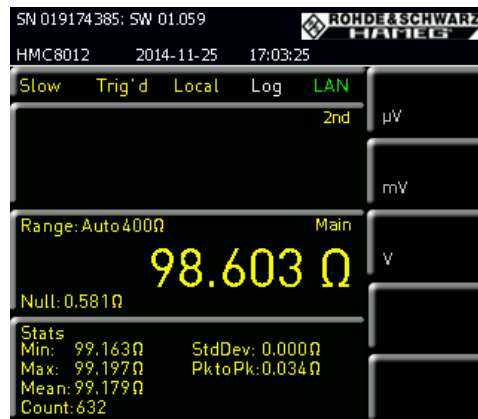

Fig. 2-12: Display of a resistance measurement.
- Additional statistical values such as max., min., mean, etc. are displayed under the main measurement result (Fig. 2-12). To hide the values or to change the settings, press the *MEAS* key and select the *STATS* softkey.
- Additional statistical values such as max., min., mean, etc. are displayed under the main measurement result (Fig. 2-12). To hide the values or to change the settings, press the *MEAS* key and then select the *STATS* softkey.